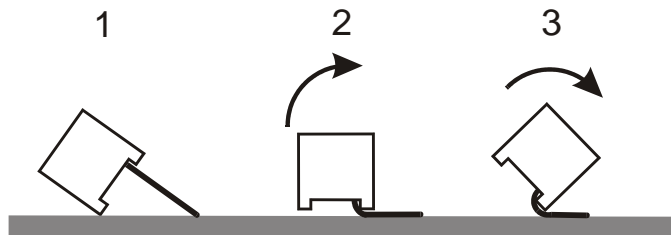

Figure 6. Preparing Light Bar Leads.
- Prepare the leads of the yellow light bar for mounting on the board by bending them as shown in Figure 6. Press the leads against a smooth, hard surface and roll the light bar until they are at about a 45 degree angle to the side of the light bar.